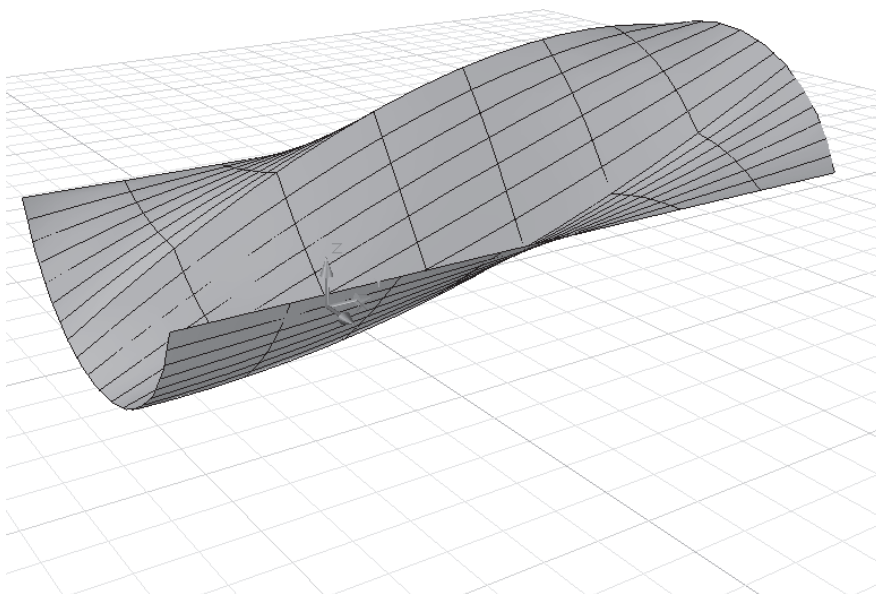

Figure 6.38
4. Make sure Smooth Fit is selected, and click OK. A surface appears that smoothly transitions through the three objects, as shown in Figure 6.38.
For the revolved shape in Figure 6.40, I used an angle of 180°. Figure 6.38 shows an ellipse as an example, but you can use any shape you want, such as the cross section of a car wheel or a pulley. Just make sure that when you draw your shape, the outline does not cross over itself, like an 8. AutoCAD will return an error message if you attempt to revolve such a shape.